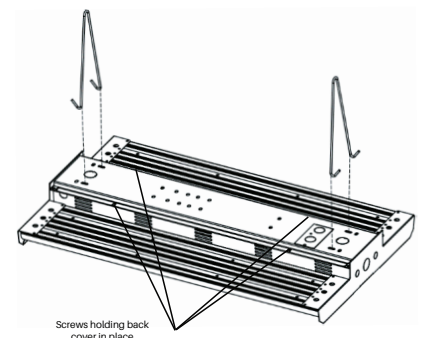

Figure 1
1. Remove back cover from fixture by unscrewing (4) screws holding cover in place. See Figure 1.
5. Replace back cover on fixture using (4) screws that were removed in Step 1.
6. Pass the (2) supplied wire hangers through the last links of (2) supplied suspension chains.
7. Install the wire hangers into the back of the fixture. Ends of wire hangers are first inserted into the longer oval holes in the fixture and are then returned out of the fixture through the smaller oval holes. See Figure 1.